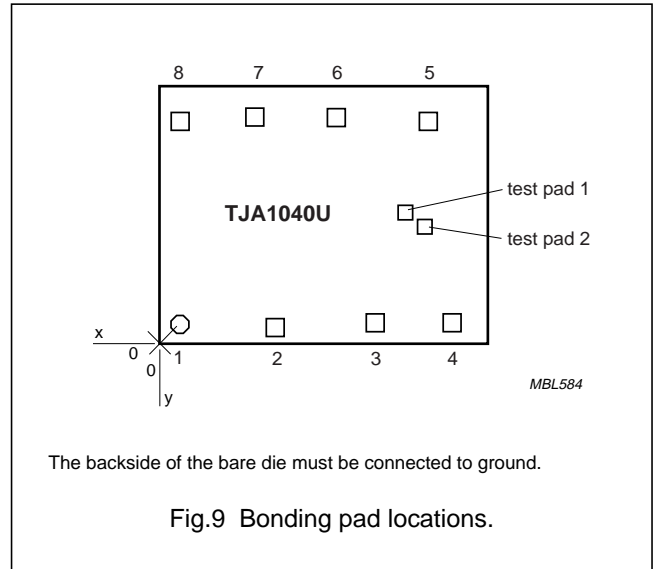

Fig.9 Bonding pad locations.
1. All x/y coordinates represent the position of the centre of each pad (in  $\mu\text{m}$ ) with respect to the left hand bottom corner of the top aluminium layer (see Fig.9).